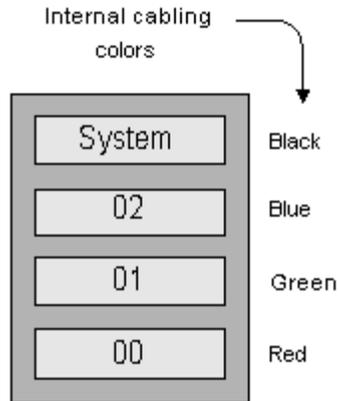

Figure 2-3
Note that these discussions reflect system configurations with a separate system drive as illustrated in Figure 2-3. Configurations that have the system partition established on the RAID array itself (leaving a hot-spare drive) are discussed later in this chapter.
Your MaxPac system can contain up to four SATA hot-swappable hard disk drives presented in a 3-drive disk caddy. This caddy is located on the upper left-hand side of the main chassis. The numbering of the disks is as shown in Figure 2-3. In the case of a typical RAID 5 system, the upper disk is the system disk, while the lower three disks are used to implement the RAID data array.
- 2) Power the system back up again. The BIOS detects the fact that there is a problem with the RAID array and displays an appropriate message (Figure 2-32). Press the <Pause Break> key to freeze the display; from this (and Figure 2-3) you will be able to determine which drive has failed.